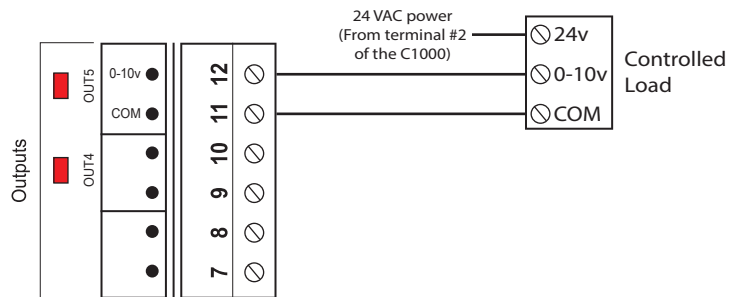

Figure 21 - Connecting the Analog Output (Controller Powered)
2) The C1000 only provides the control signal to the load, which is powered by an external source (see Figure 21).